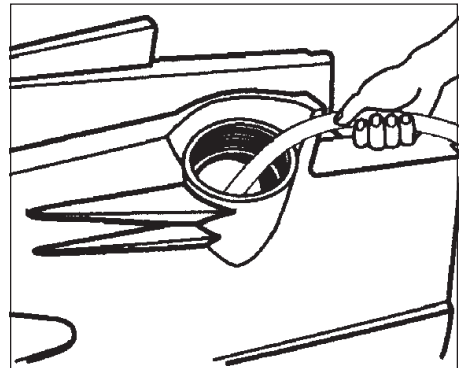

Figure 34
The solution tank fill port is located under the seat (see figure 34). To fill the solution tank, follow this procedure:
4. Fill the solution tank with clean water (see figure 34).